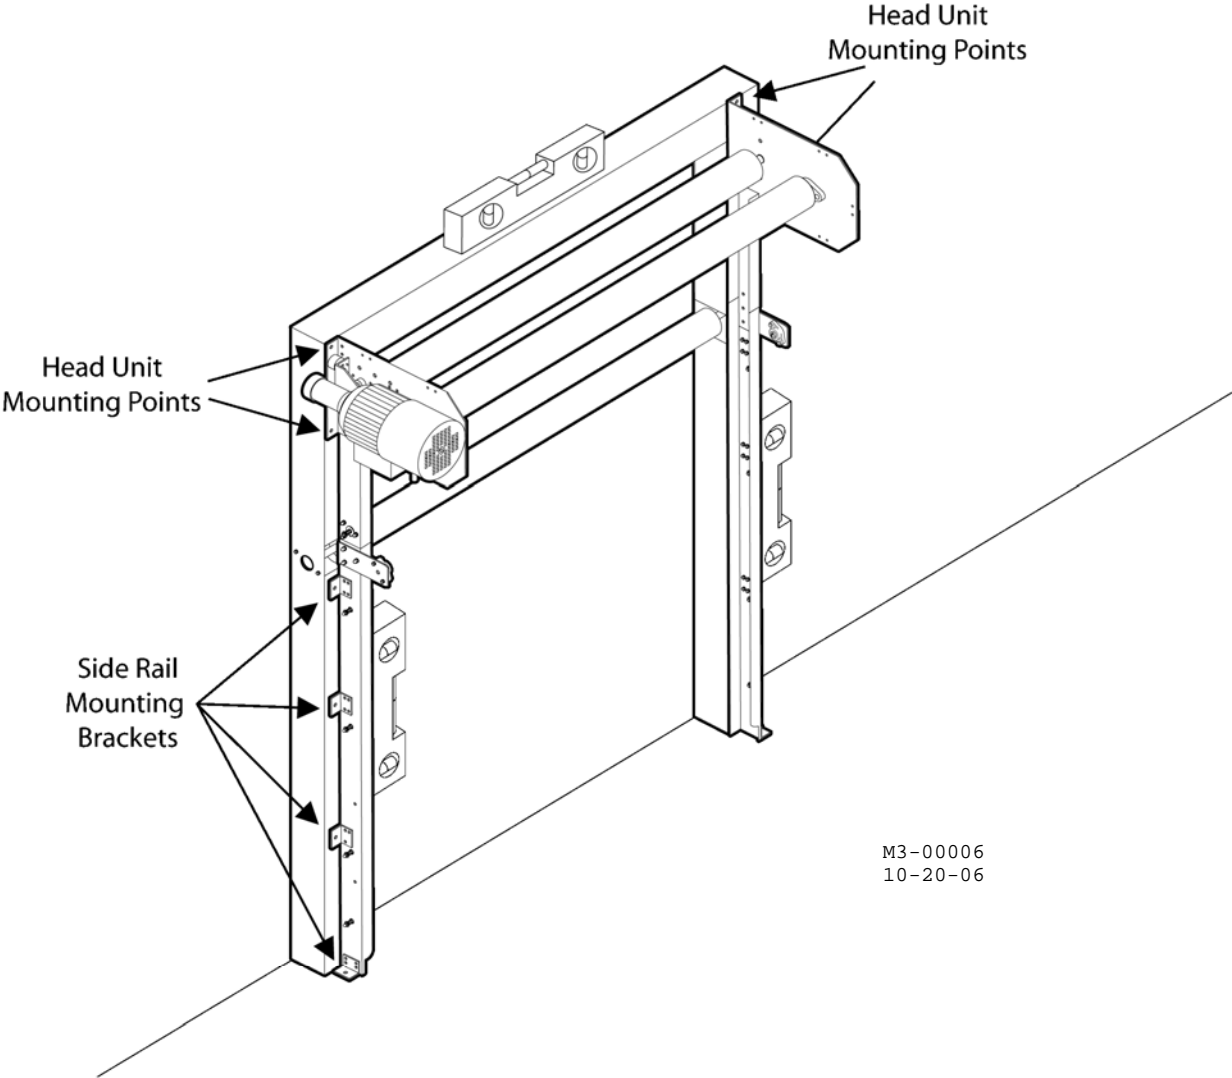

Figure 2-17: Anchoring the Door
- 7. Permanently anchor the door in the following order. See Figure 2-17.